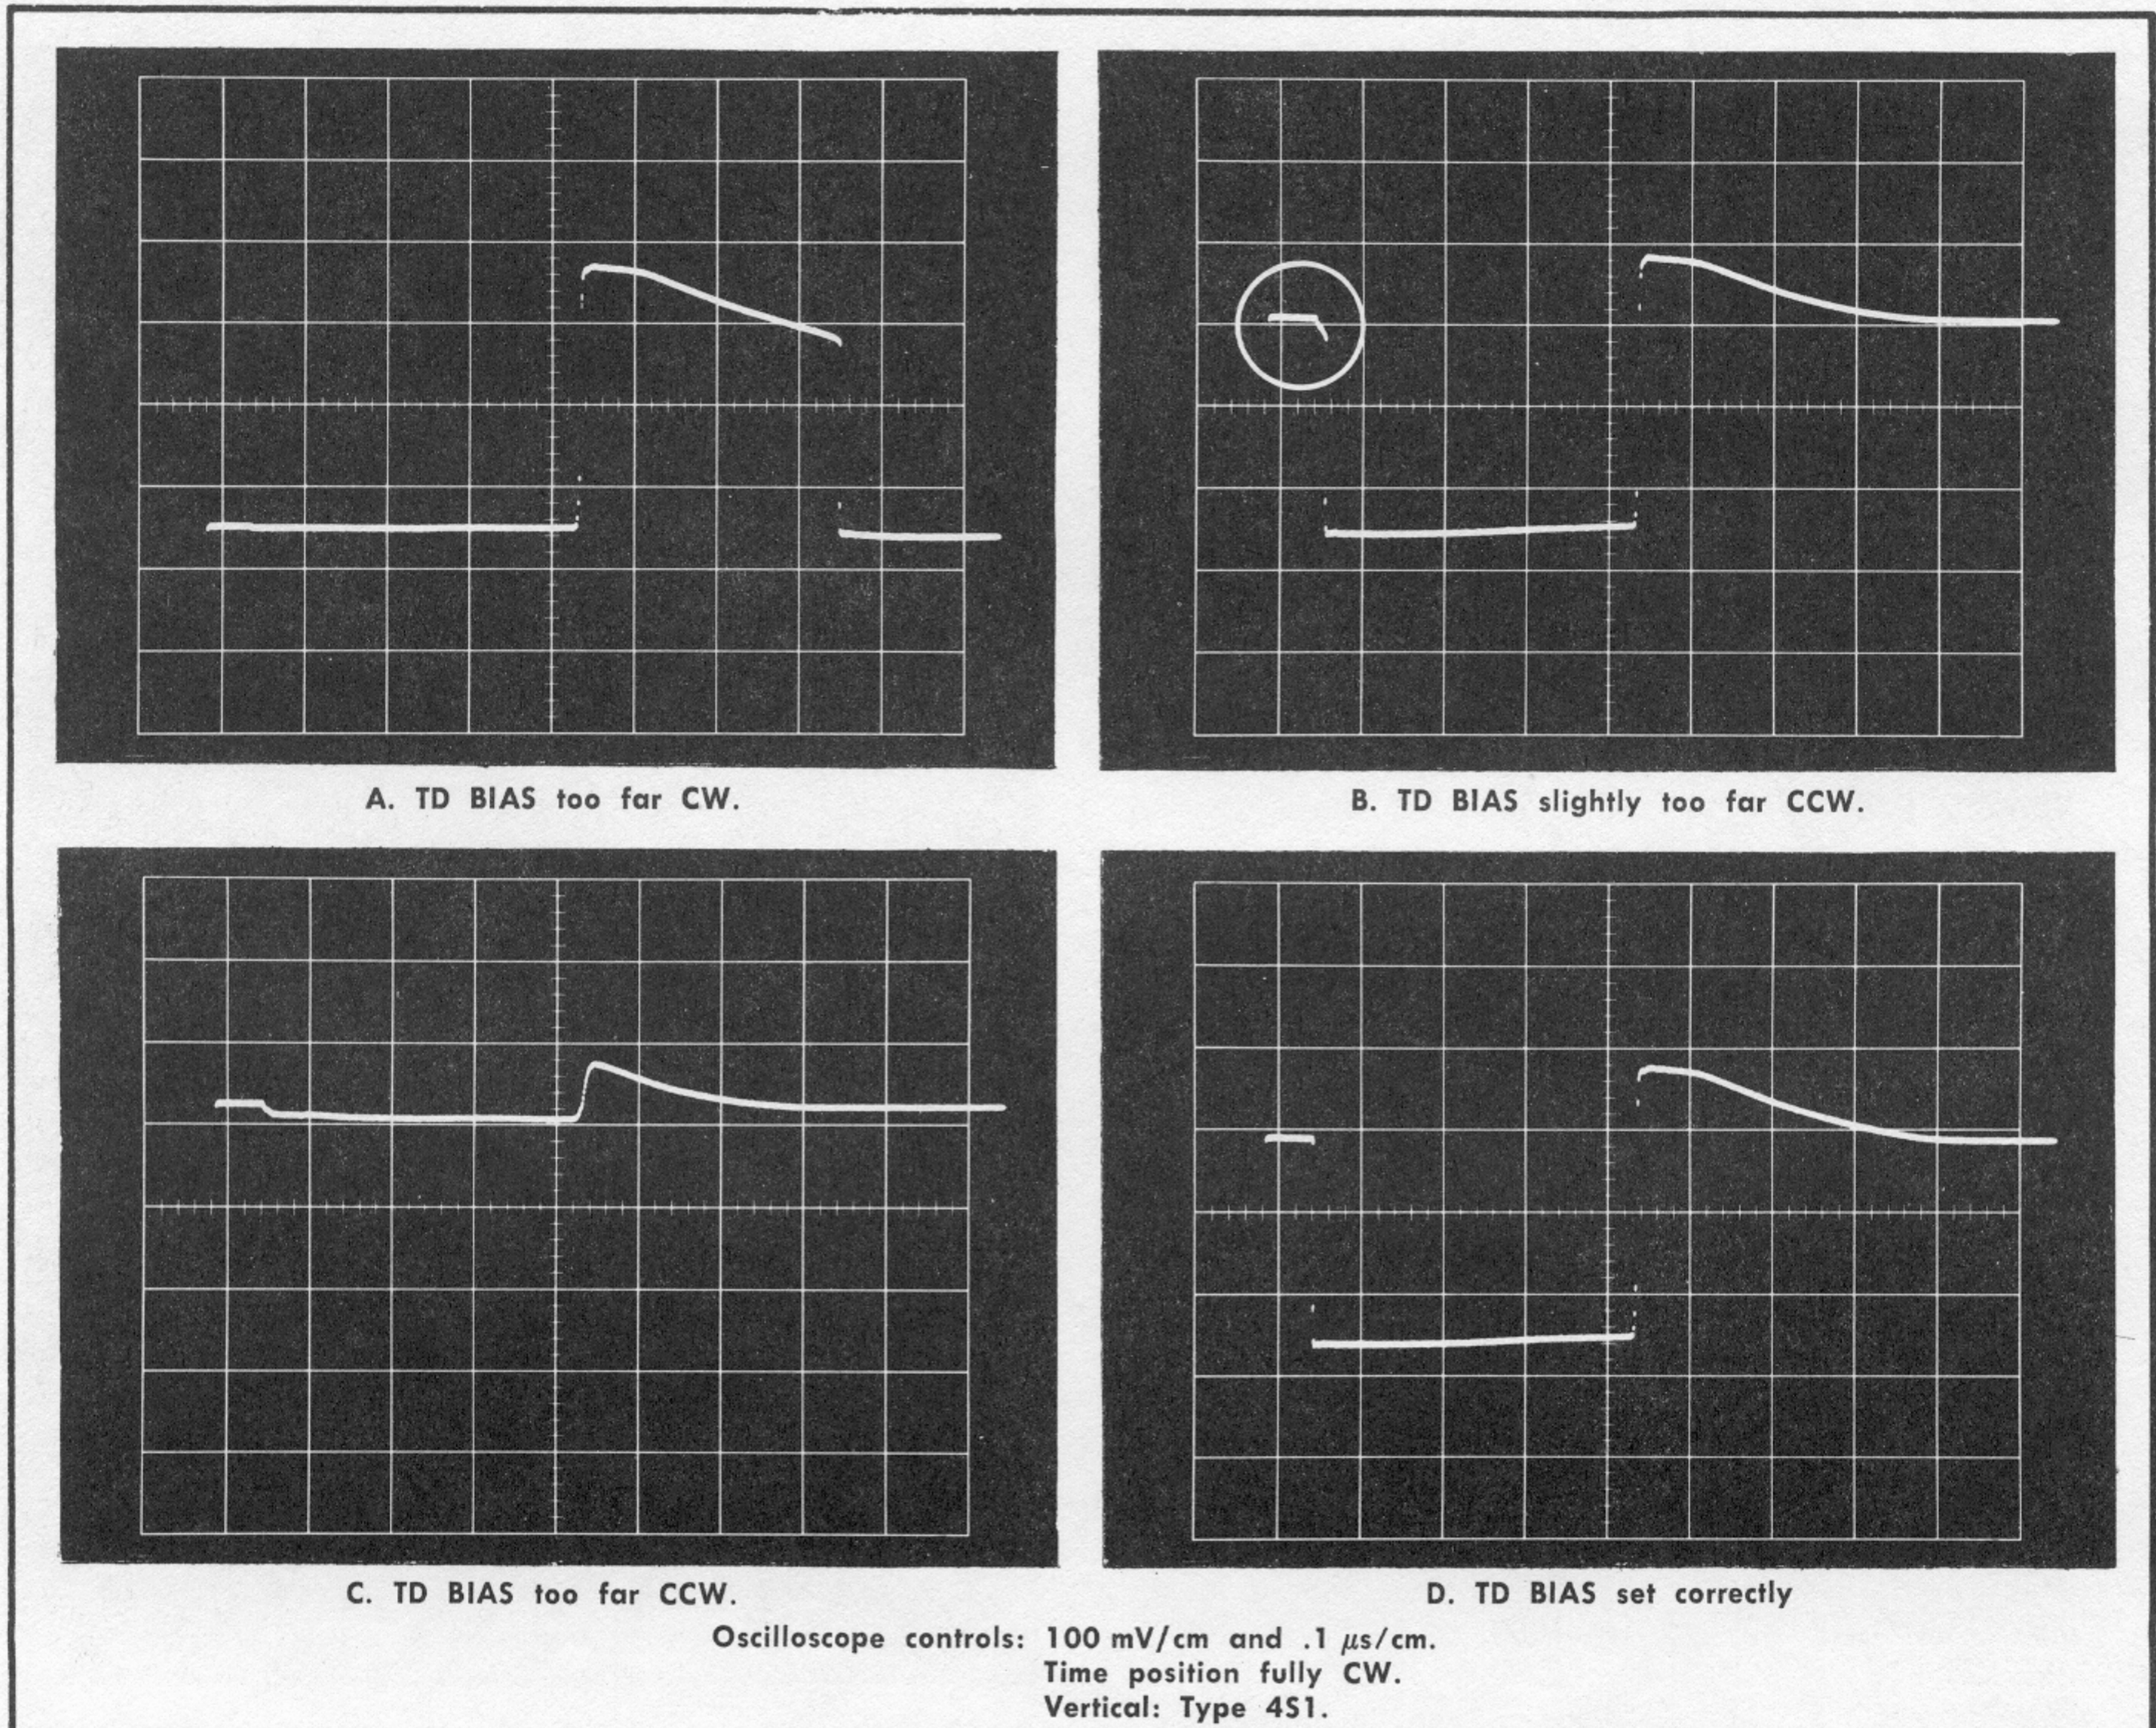

Fig. 6-24. Displays that are possible during TD BIAS control adjustment, Step 22A.
b. Adjust the two Time Position controls on the Timing Unit for a negative step display. The display should be similar to that shown in Fig. 6-24D. Fig. 6-24 shows waveforms for all possible improper and proper adjustment conditions of the TD BIAS control, R996. Adjust R996 until the display is like Fig. 6-24.